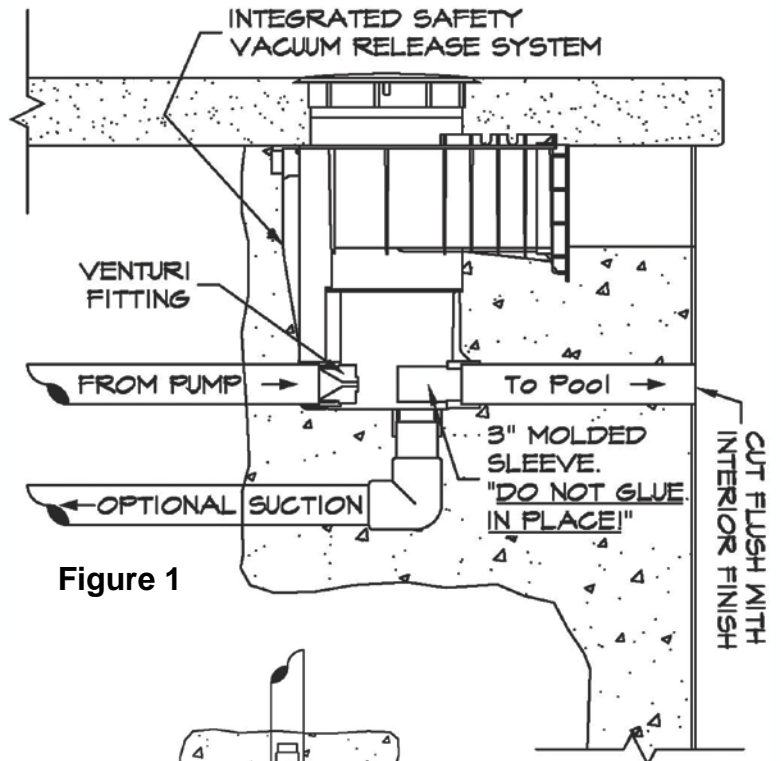
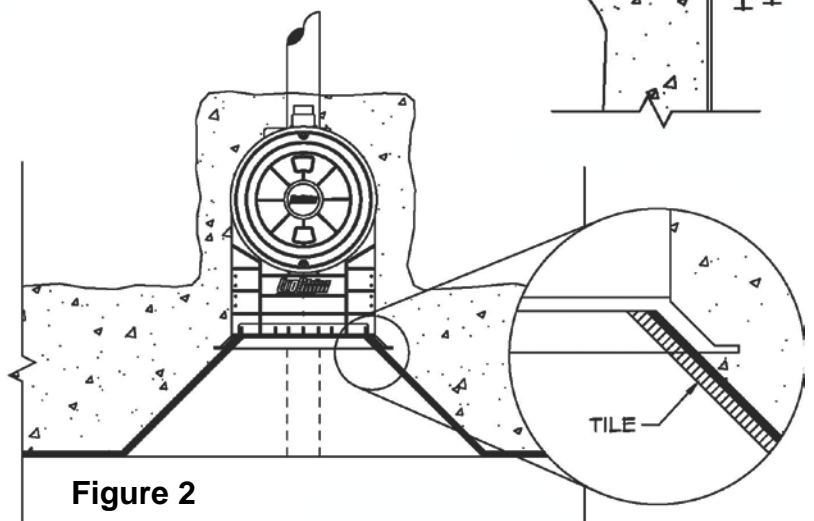

Figure 1
Figure 2
1. Set and install the QuikSkim skimmer as you would install a normal skimmer (See Figure 1 & 2 for detailed installation requirements). The QuikSkim incorporates a water stop into the faceplate to eliminate leaks. The Figure 2 detail view shows how to locate the tile/grout to ensure a water tight seal.
8. At start-up, remove the test plugs and install the venturi fitting in the inlet port (Figure 1).
9. Install the provided 3" long molded sleeve into the discharge fitting directly opposite the venturi fitting (Figure 1). **DO NOT GLUE THE SLEEVE INTO THE FITTING!** This must remain unglued so that a plug may be threaded into the bottom suction port if it is necessary to pressurize or winterize the system.